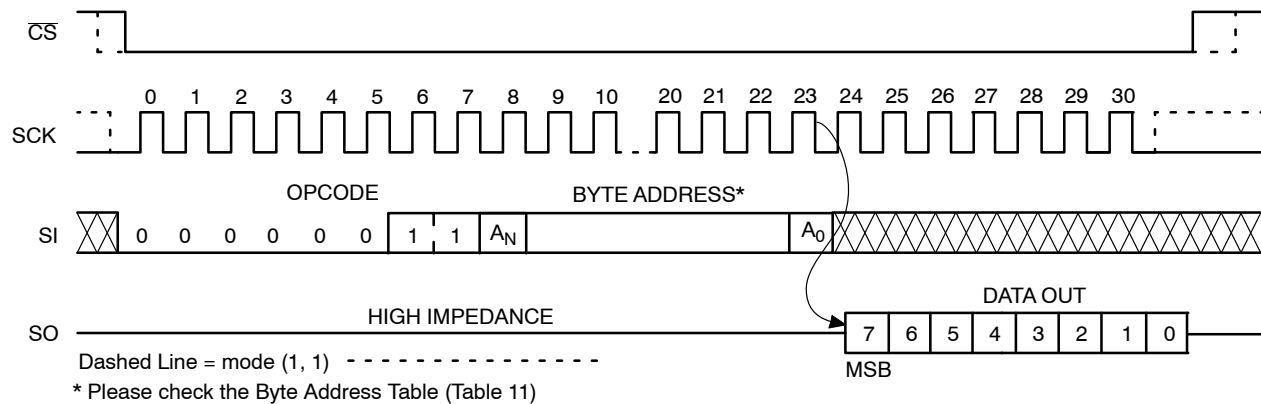

Figure 8. READ Timing
After receiving the last address bit, the NV25xxx will respond by shifting out data on the SO pin (as shown in Figure 8). Sequentially stored data can be read out by simply continuing to run the clock. The internal address pointer is automatically incremented to the next higher address as data is shifted out. After reaching the highest memory address, the address counter “rolls over” to the lowest memory address, and the read cycle can be continued indefinitely. The read operation is terminated by taking \overline{CS} high.
Reading the additional 32-byte Identification Page (IP) is achieved using the same Read command sequence as used for Read from main memory array (Figure 8). **The IPL bit from the Status Register must be set (IPL = 1) before attempting to read from the IP.** The [A4:A0] are the address significant bits that point to the data byte shifted out on the SO pin. If the \overline{CS} continues to be held low, the internal address register defined by [A4:A0] bits is automatically incremented and the next data byte from the IP is shifted out. The byte address must not exceed the 32-byte page boundary.